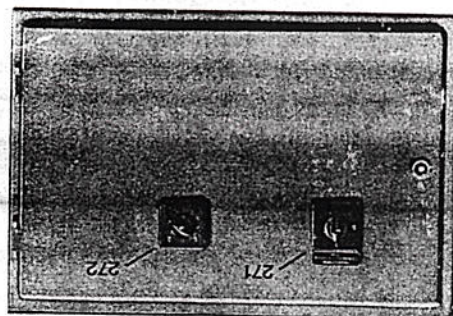

Fig. 3: Main Switch and Speed Selector Switch
- Fig. 3 Assembly Drawing: Control System
The machine is protected by the main switch (Fig. 3). The motor is protected by a thermal control which switches off the motor automatically if the temperature rises excessively. At the same time the control circuit is broken and the contactors neutralized. After the motor has cooled down again the machine is ready for further operation — without any intervention on the part of the operator.